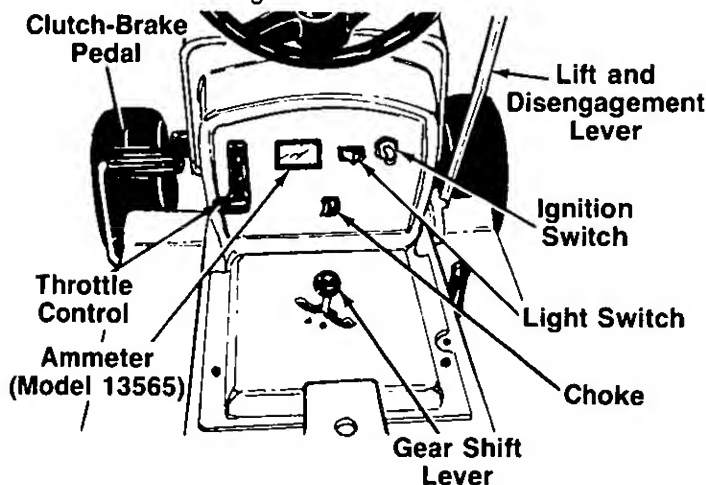

FIGURE 16.
The throttle control is used to regulate the engine speed. To get maximum efficiency from cutting, the throttle should be in the FAST position when operating the mower. See figure 16.
The choke control is located on the dashboard and is operated manually. Details for the choke operation are covered in the separate engine manual packed with your unit. See figure 16.
The shift lever is located on the left side of the console and has three positions, FORWARD, NEUTRAL and REVERSE. See figure 16. The clutch-brake pedal must be depressed and the lawn tractor must not be moving when shifting gears. Do not force the shift lever. Release the clutch-brake pedal slightly to line up the shifting collar in the transmission. Then try to shift gears.
Turn the key to the START position to start the engine. When the engine is running, let the key return to the ON position. To stop the engine, turn the key to the left to the OFF position and remove it to prevent accidental starting. See figure 16.
will only operate when the engine is running. See figure 16.
The ammeter registers the rate of battery charge or discharge. The ammeter will register on the discharging side when starting the engine. It should register on the opposite side (charging) when the engine is running in the fast position until the battery is completely charged. With a fully charged battery or with the engine idling, the ammeter will not show a charge. See figure 16.
The clutch-brake pedal is located on the left side of the lawn tractor. Depressing the clutch-brake pedal part way disengages the clutch. Pressing the pedal all the way down disengages the clutch and engages the disc brake. See figure 16.
4. Set the throttle control in the FAST position. See figure 16.
6. Turn the ignition key to the START position. When the engine is running, let the key return to the ON position. See figure 16.